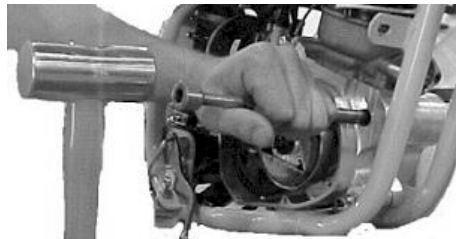

Figure 30
12. Heat engine case around area of impeller lightly with a small propane torch. Using a 3/8" diameter x 8" long steel rod, tap impeller assembly out of engine as shown in figure 30.